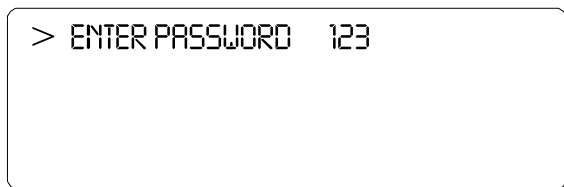

FIG. 336: LOGGING ON/ENTERING PASSWORD
Step 4. Press the Enter button to set the entry. The Enter Password Display appears. (See Fig. 336)